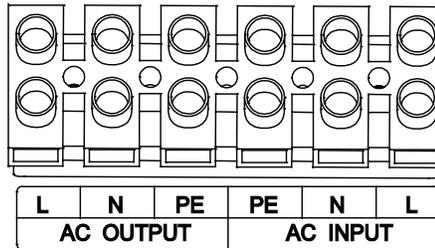

**Figure 17: Installing base 1**
3. Use two rear panel mounting screws to install Base 1 to the UPS rear panel, as shown in Figure 17.